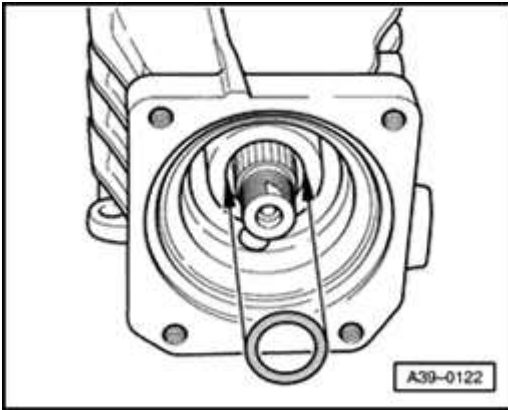

**Fig. 105: Inserting O-Ring**
- Insert with gear oil. See Fig. 105